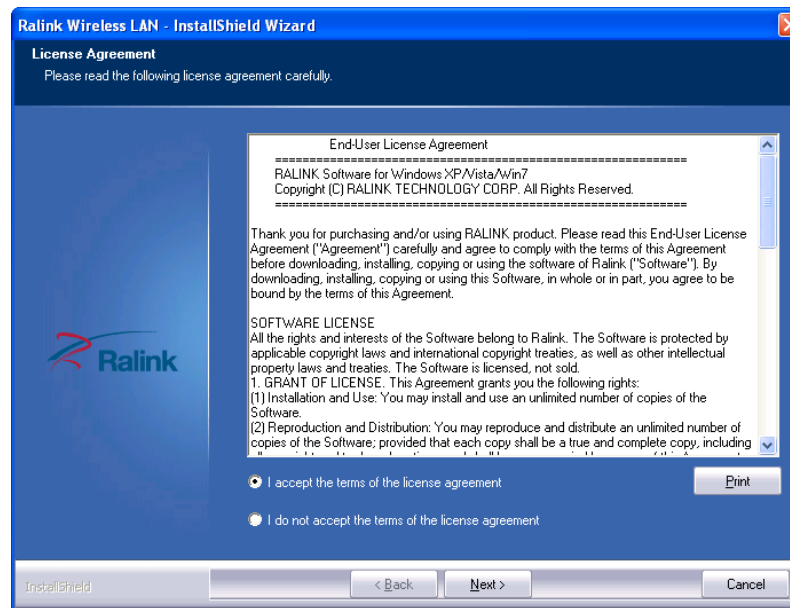

Figure 8-31: License Agreement
Step 3: The **License Agreement** screen in **Figure 8-31** appears.